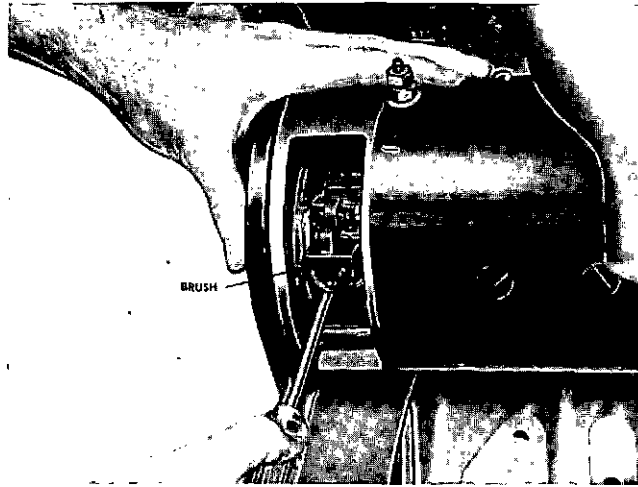

Fig. 2-70 (N11308) Checking generator brushes
1. Inspect terminals for corrosion and loose connections, Fig. 2-70, and wiring for frayed insulation. Check mounting bolts for tightness and check belt for alignment, proper tension and wear.